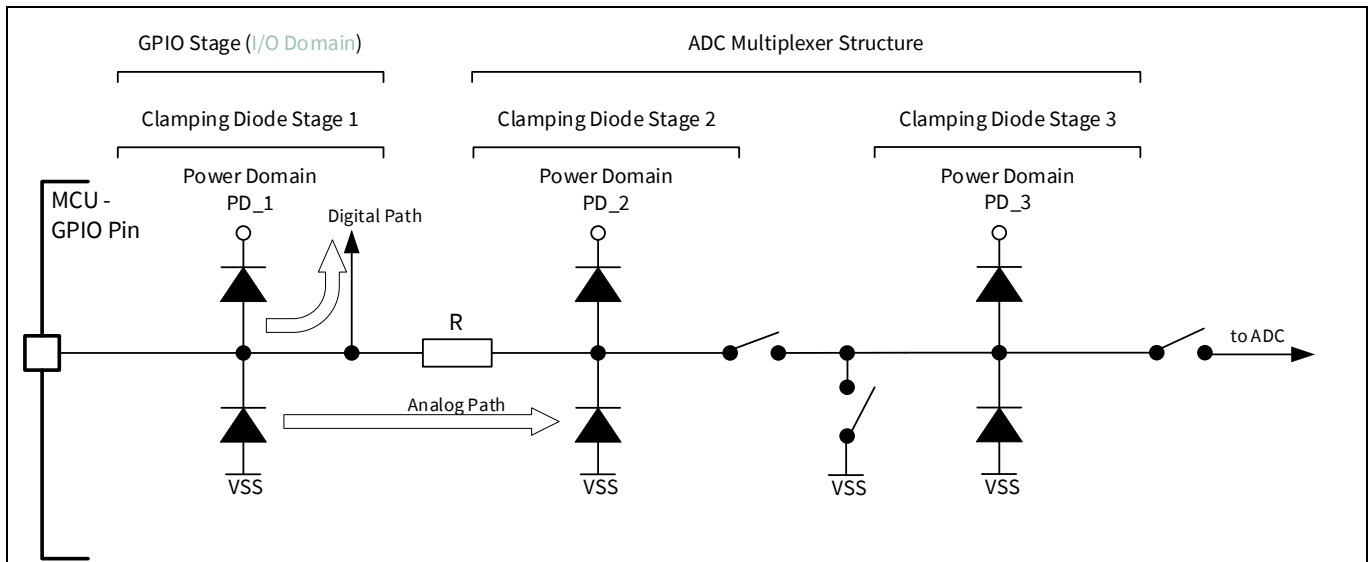

Figure 18 Clamping structure of I/O pins with shared analog functions
It is important to identify the power supply domains that must have a common supply level in each application. **Figure 18** and **Appendix G – Clamping structure of I/O pins with shared analog functions** provide the overview of the clamping structure and the consequences when the analog input function is used on dedicated power domains. When any port pin of a dedicated power domain (PD) is applied as an analog input, the domain must have the same voltage level or lower than the analog supply (VDDA_ADC). **Appendix G – Clamping structure of I/O pins with shared analog functions** lists the special use cases.